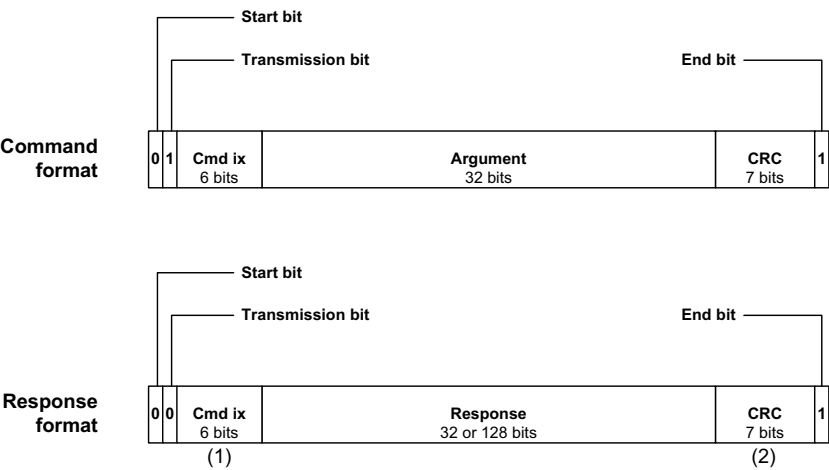

Figure 17-3 SD/MMC command and response formats.
- F17-2(1) When no data is being transmitted, data lines are held low.
- F17-2(2) Data block is preceded by a start bit ('0'); an end bit ('1') follows the CRC.
- F17-2(3) The CRC is the 16-bit CCITT CRC.
- F17-2(4) During the busy signaling following a write, DAT0 only is held low.
- F17-2(5) See Figure 17-3 for description of the command format.
- F17-2(6) See Figure 17-3 for description of the command format.